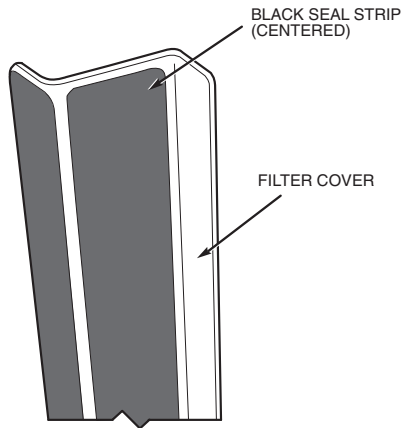

Fig. 36 — Attaching Seal Strip to Filter Cover
13. Attach black seal strip (provided) to filter cover. Seal strip should be applied centered over the holes of the one flange, making sure to fully cover holes and center over the other large flange. See Fig. 36.